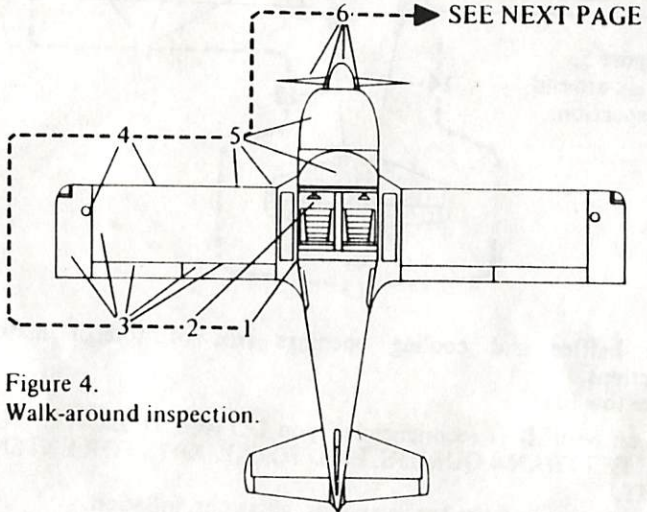

Figure 4. Walk-around inspection.
**Preflight:** The airplane should be given a thorough visual inspection prior to each flight. This procedure is recommended as shown in Figure 4. and 5.